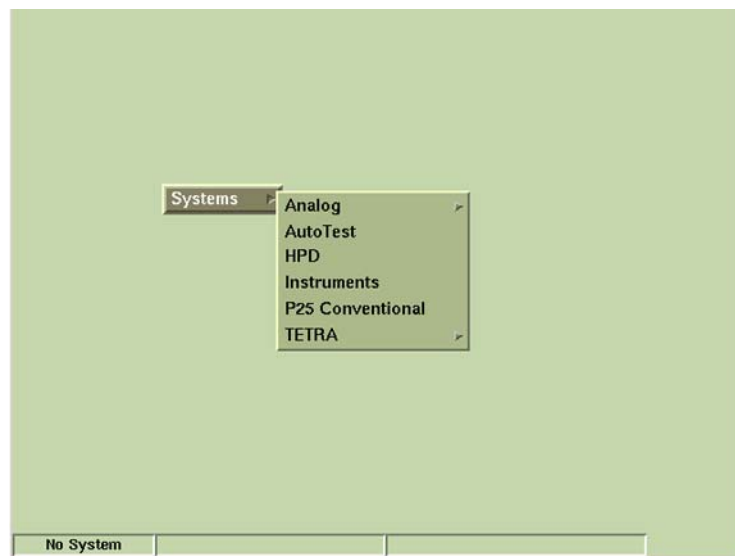

Fig. 4-1 Factory Default Display Tile
7. A warning prompt appears indicating that all settings will be changed to factory default values. Press the SELECT Key to continue. After a short delay, the Factory Default Startup Screen appears (refer to Fig. 4-1).